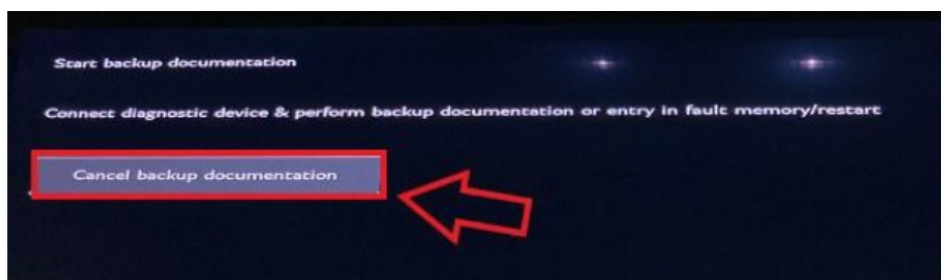

Figure 17
11. When the "Start backup documentation" screen is displayed, select "Cancel backup documentation" (figure 17)